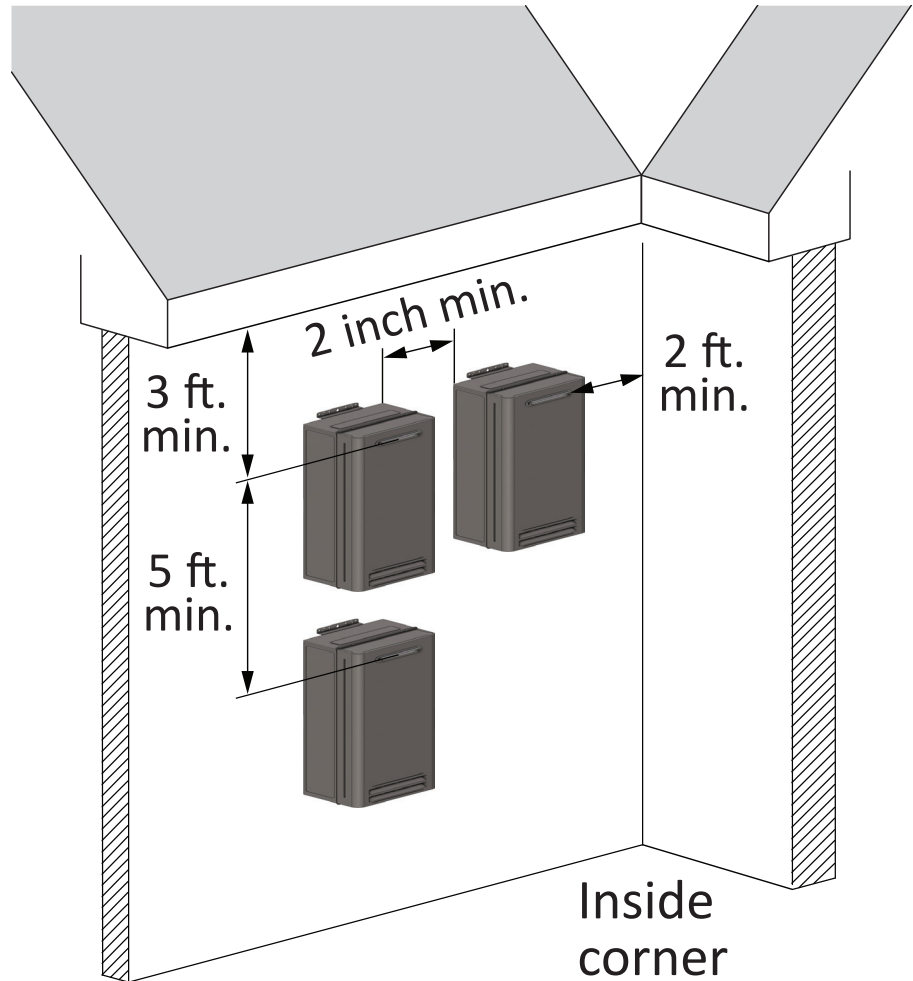

Figure 16 - Multi-Unit Outdoor Terminations (TO Outdoor Models)
- Outdoor water heaters must have at least 2 inches of horizontal space between each unit. There must be at least 5 ft. of space between the exhaust terminals of each unit if the water heaters are installed vertically. The water heater exhaust terminal must also be at least 2 ft. away from an inside corner. (Figure 16).
- Outdoor water heaters must be at least 3 ft. away from a ventilated or unventilated soffit or eave vent; or to a deck or porch (Figure 16).